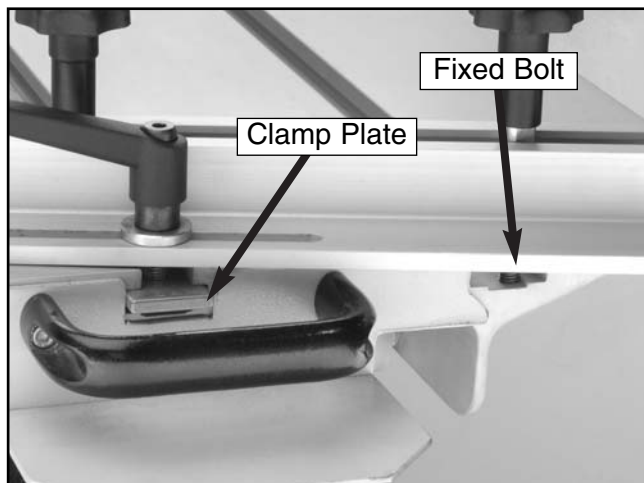

Figure 51. Miter fence components aligned for installation of miter fence.
2. Align the fixed bolt in the slot closest to the blade and align the clamp plate in the other slot as shown in **Figure 51**.